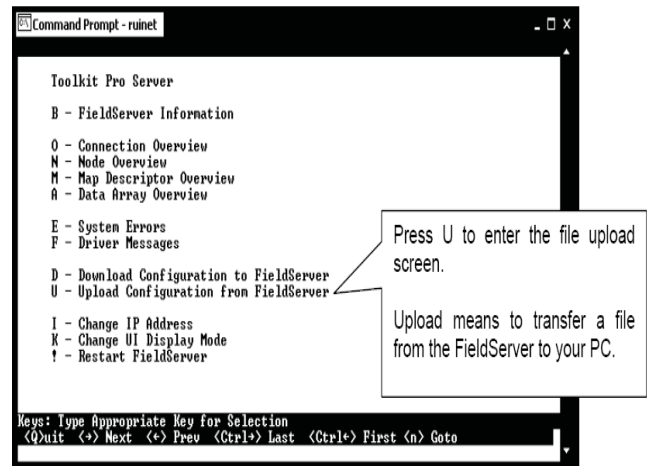
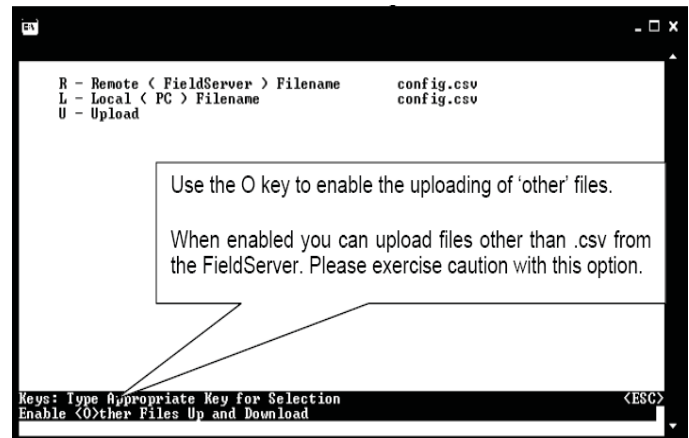

Figure 15: RUINET PT-Link Main Menu - Upload
Figure 16: RUINET PT-Link Upload
9.) *Type* the letter  to upload the Config file (Figure 15), then *type*  again (Figure 16) for Upload.